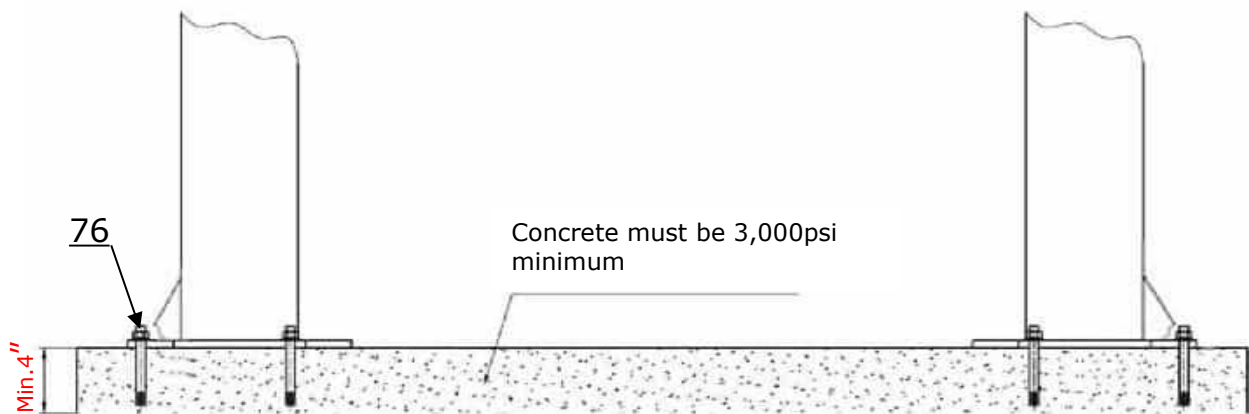

Fig. 7
D. SPECIFICATIONS OF CONCRETE (See Fig.7)